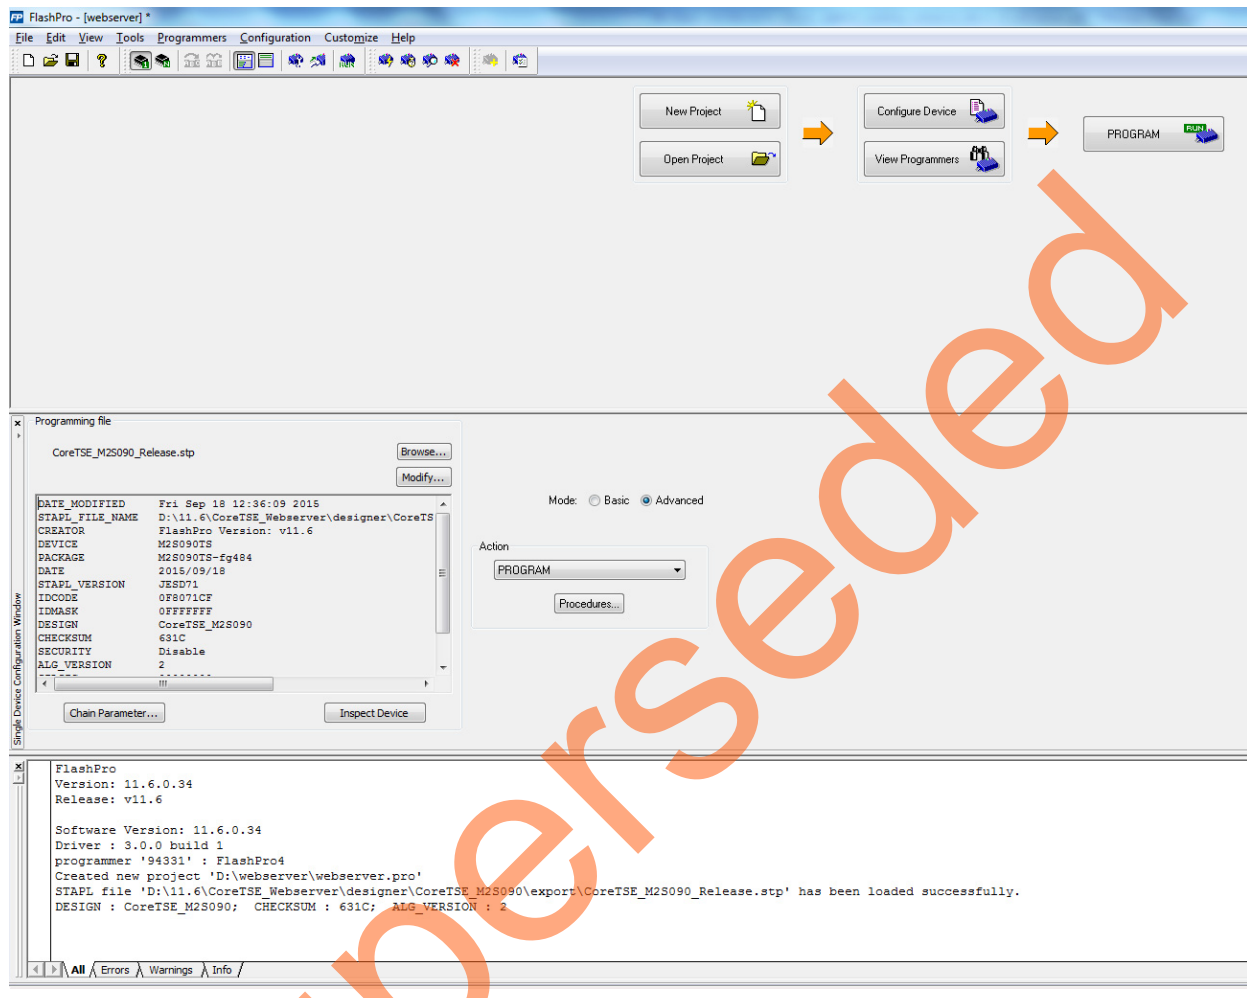

Figure 9 • FlashPro Project Configured
7. Click **Configure Device**, as shown in Figure 9.